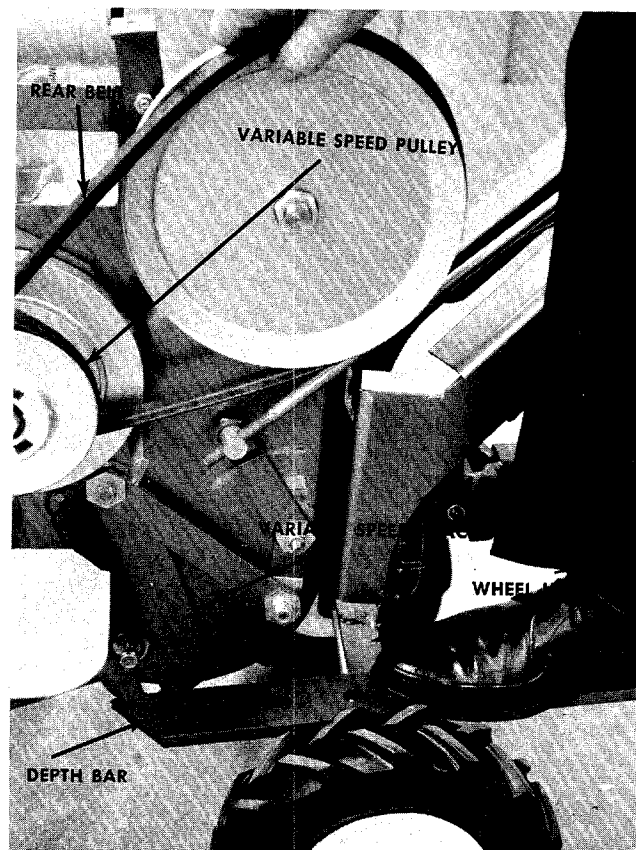

FIGURE 4-8. BELT REMOVAL
Step 2. Put the depth bar on the wheel hanger and place the tip of the depth bar under the variable speed pulley bracket as shown in Figure 4-8.